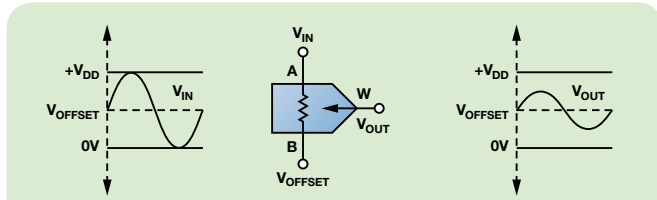

Figure 7. AC signal, single-supply mode.
- Single supply: 2.3 V to 33 V (see Figure 7)